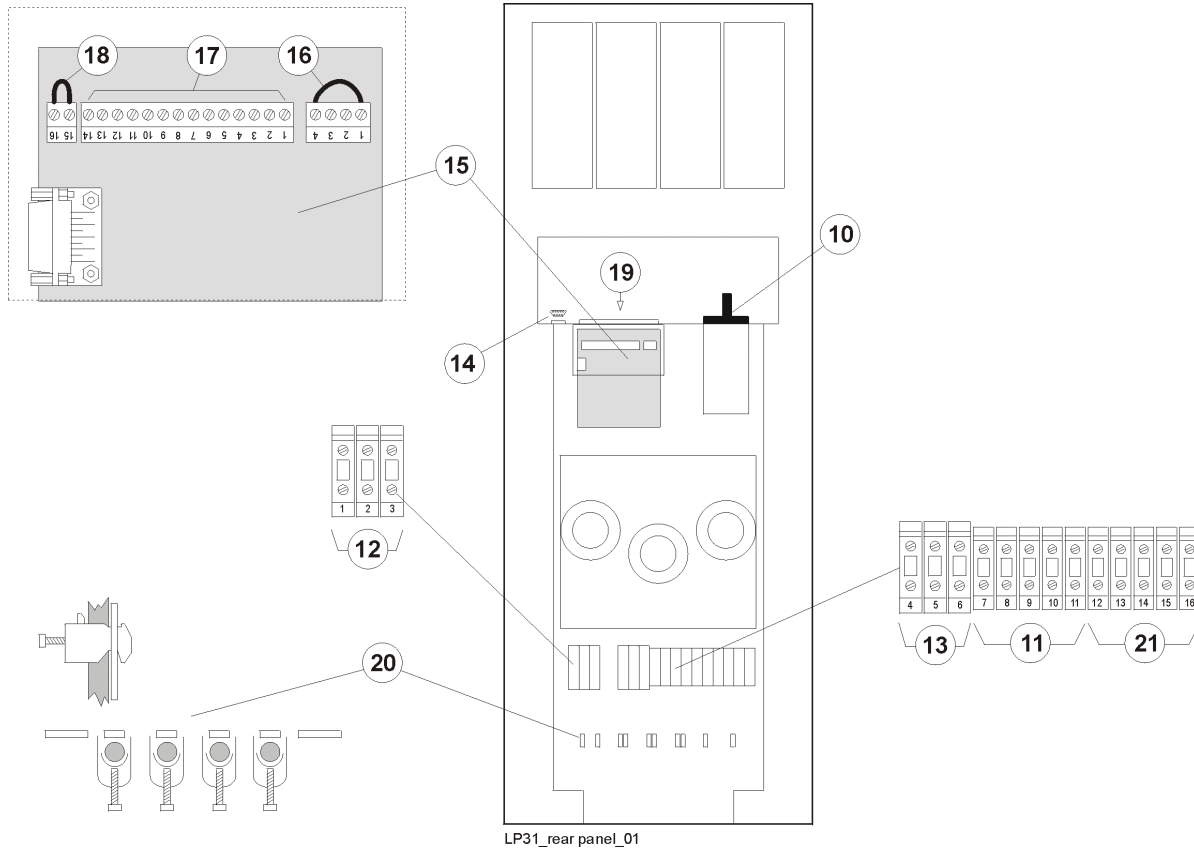

Figure 6 – Rear panel
1. Please refer to figure 6 in chapter 4.1 and drawing "TERMINALS" for the location of terminals.
Position the clamps in the slots (20, see fig. 6).